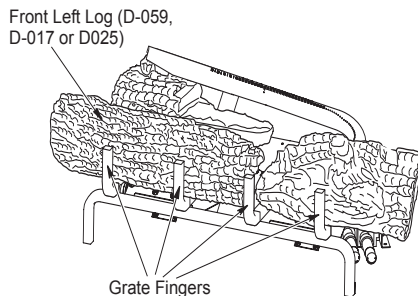

Figure 30 - Installing Front Left Log
- Find the front left log (LMF36-SC and VFGT24 inch models: D-059 or LMF42-SC and VTGF30 inch models: D-017 or LMF48-SC and VFGT36 inch models: D-025). See Figures 30, 30A, and 30B. The log has a rectangular stand off on the bottom that fits against the lip on the black metal base as shown in figure 30A. The bottom of this log has a slot that fits over the second bar on the grate as shown in Figure 30B, page 20. Place the log on the base assembly as shown in figures.